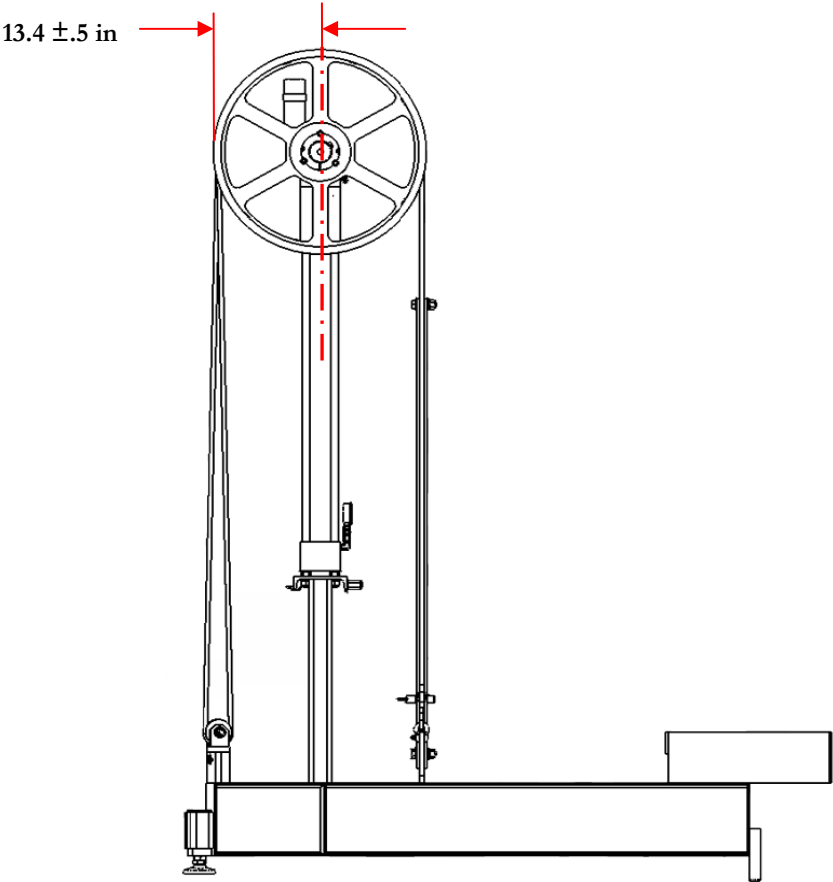

Figure 4. Cylinder Alignment
3. Verify that the distance from centerline of the polished rod to the centerline of the cylinder is 13 3/8 inches (see Figure 4). An optional point of measure is from the face of the cylinder block, which should measure 10-3/4 inches, to the centerline of the polished rod. This distance ensures that the cables will be in the same plane as the polished rod. If the distance is not correct, move the pump fore or aft as required to establish this distance.